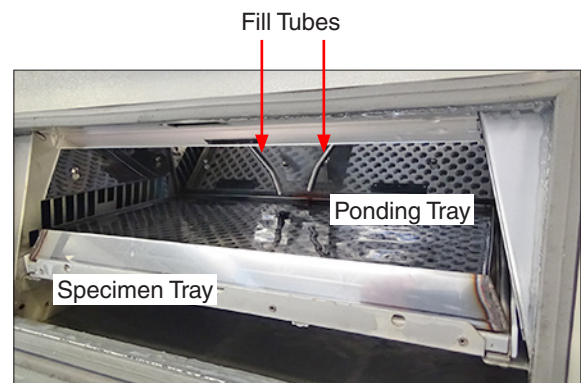

Figure 9b: Xe-1-WE test chamber with ponding tray.
- Fill tubes (Figure 9b)
- Ponding tray (Figure 9b)
- Specimen Tray (Figure 9b)